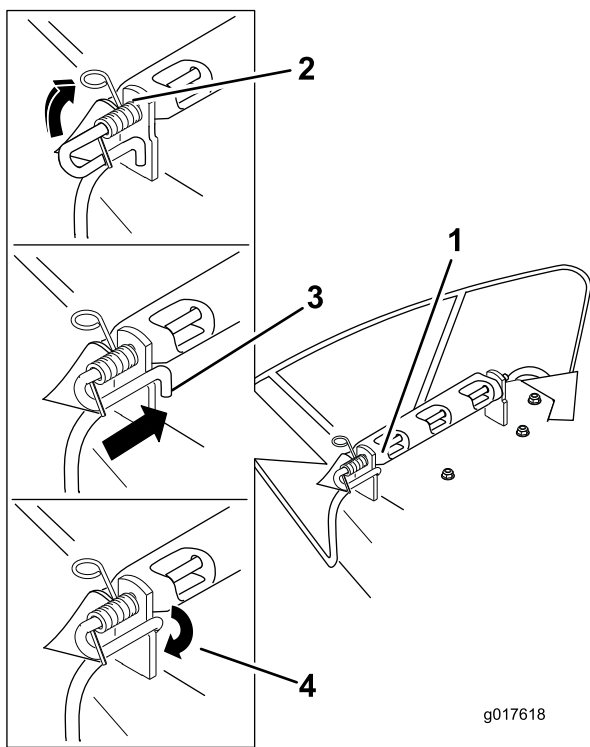

Figure 64
5. Secure the rod and spring assembly by twisting it so the short end of the rod can be placed behind the front bracket welded to the deck (Figure 64).